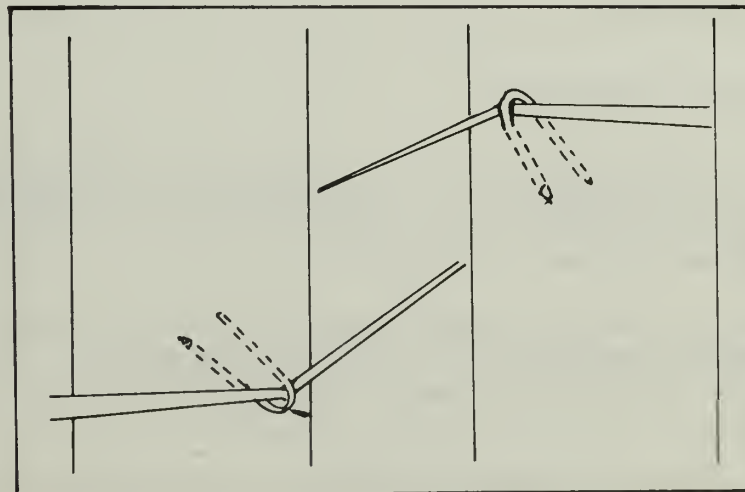

Figure 38.
4. In dips, drive staples at an upward angle and on rises drive staples at a downward angle (Fig. 38). The wire is then pulling the staple in on the post instead of out.